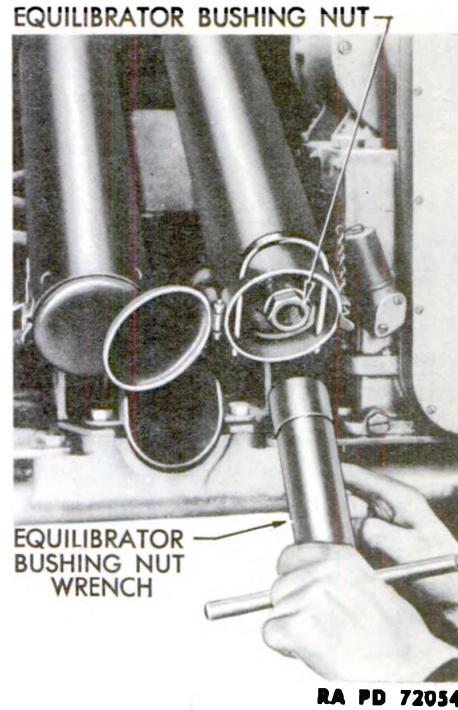

Figure 152 — Equilibrator Rod Bushing Nut — Removal
(2) Remove the equilibrator rod jam nut and bushing nut with equilibrator rod bushing nut wrench (fig. 152). At this point, the equilibrator springs will have expanded to the extent that the equilibrator spring retainer will be forced against the U-bar.